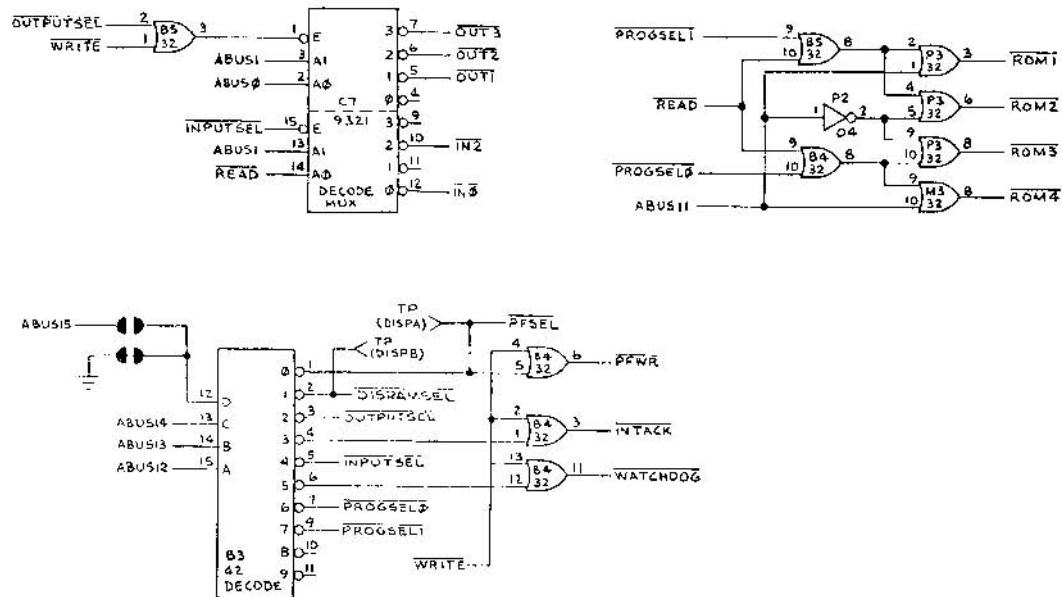

Figure 4-9 Address Decoding Circuitry
4. Address decoding circuitry B3, C7 and associated gates (see Figure 4-9).
(See Figure 4-9)